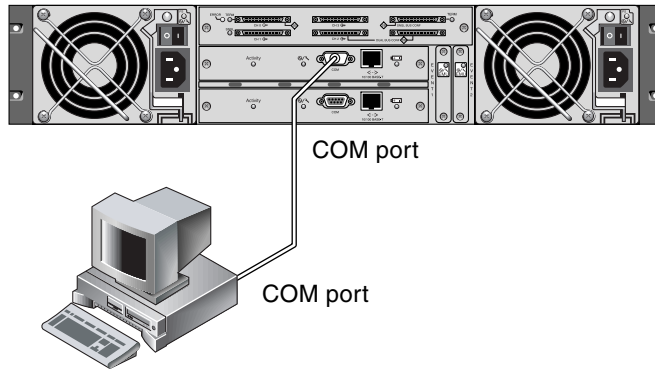

FIGURE 2-1 RAID Array COM Port Connected Locally to the COM Port of a Workstation or Computer Terminal
1. Connect the RAID array COM port to a serial port of a Solaris workstation (see FIGURE 2-1).